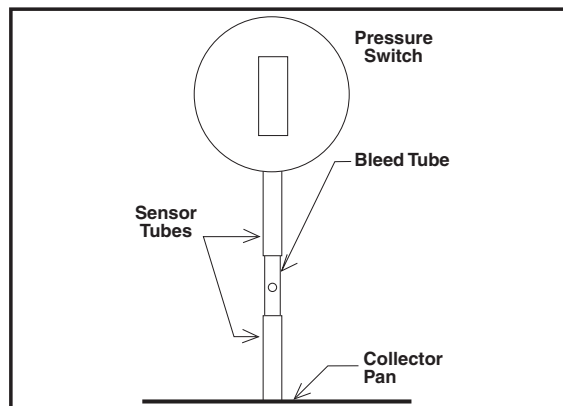

Figure 14. *TA Bleed Tube Installation
1. Remove the rubber tubing from the pressure switch sensor tube and the collector pan sensor tube. Cut 1/2 inch from one end of the rubber sensor tube, fold in half and cut along the bend line. Discard the 1/2 inch long piece of tubing. Select the correct bleed tube using the table supplied with vent kit #903196 and place the other two pieces of tubing on both ends of the bleed tube. Do not cover the hole in the bleed tube. Place the assembly back on the pressure switch sensor tube and the collector pan sensor tube. (See Figure 14.)